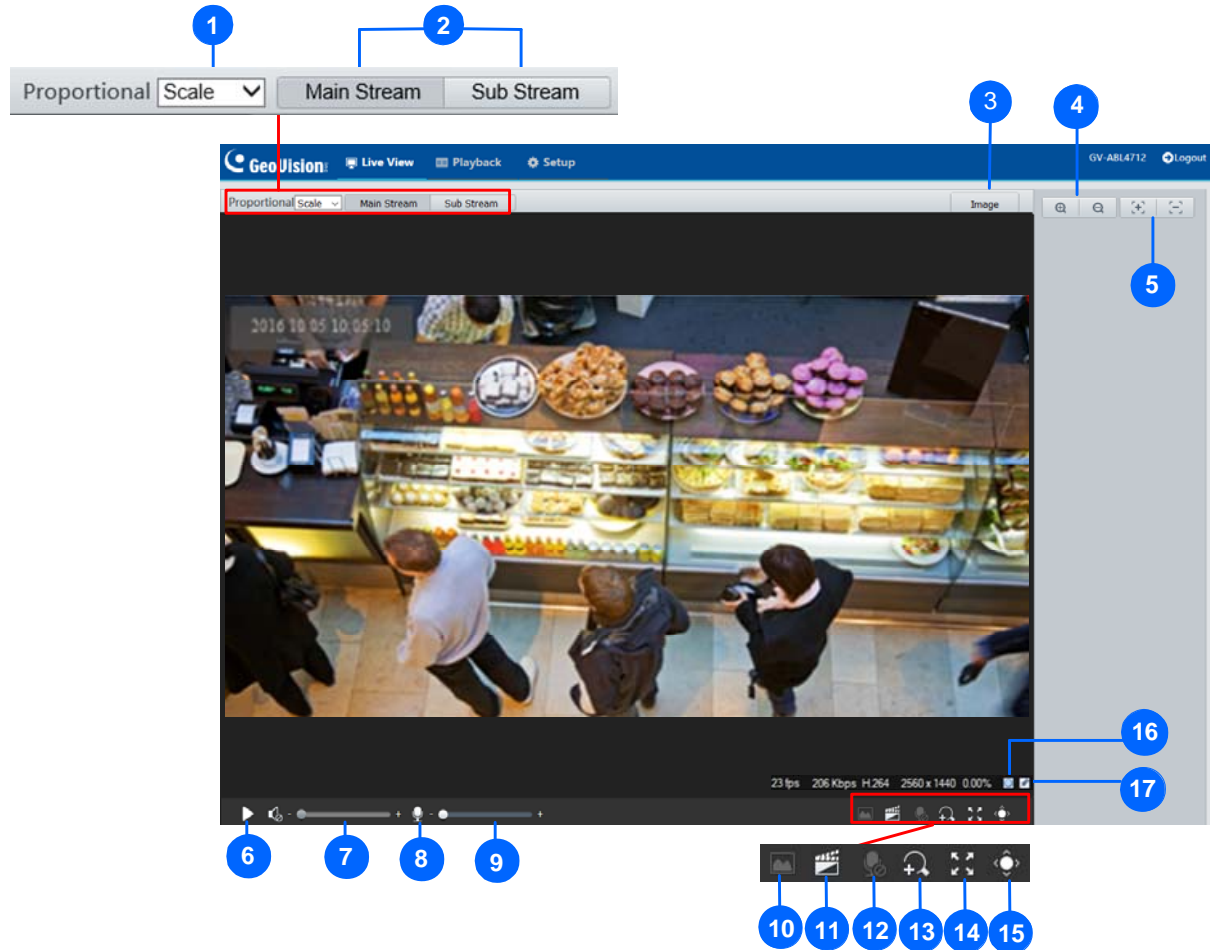

Figure 2-4
1. Click  (No. 10, Figure 2-4) on the toolbar.
4. To exit, click  (No. 10, Figure 2-4) on the toolbar.